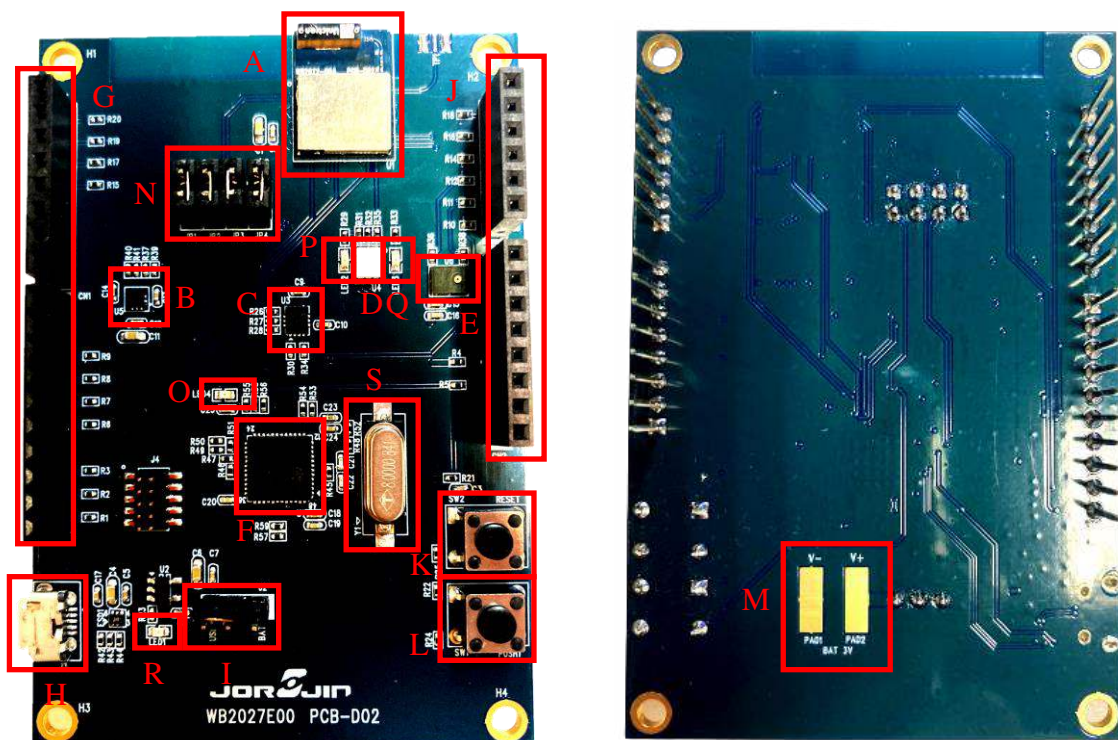

Figure 2-1. Hardware description of Evaluation Kit
LED1 green LED (Figure 2-1, region R) signals the board is being powered, either via:
- micro USB connector J3 (Figure 2-1, region H)
The following jumpers are available (Figure 2-1, region N).
1. An LPS22HB (Figure 2-1, region B) piezoresistive absolute pressure sensor which functions as a digital output barometer. The device comprises a sensing element and an IC interface which communicates through I2C from the sensing element to the application.
2. An LSM6DSOX (Figure 2-1, region C) 3D digital accelerometer and 3D digital gyroscope with embedded temperature sensor which communicates via SPI interface. One line for interrupt is also connected.
WB2072-00 signal test points are shared on two Arduino connector rows: CN1, CN3 (Figure 2-1, region G) and CN2, CN4 (Figure 2-1, region J).
The board has one user button to reset the microcontroller (Figure 2-1, region K) and one further button for application purposes (Figure 2-1, region L).
LED) are available on the board (Figure 2-1, regions R, O, P, Q and D).
The most important features of the STM32F103xx microcontroller (Figure 2-1, region F) are: